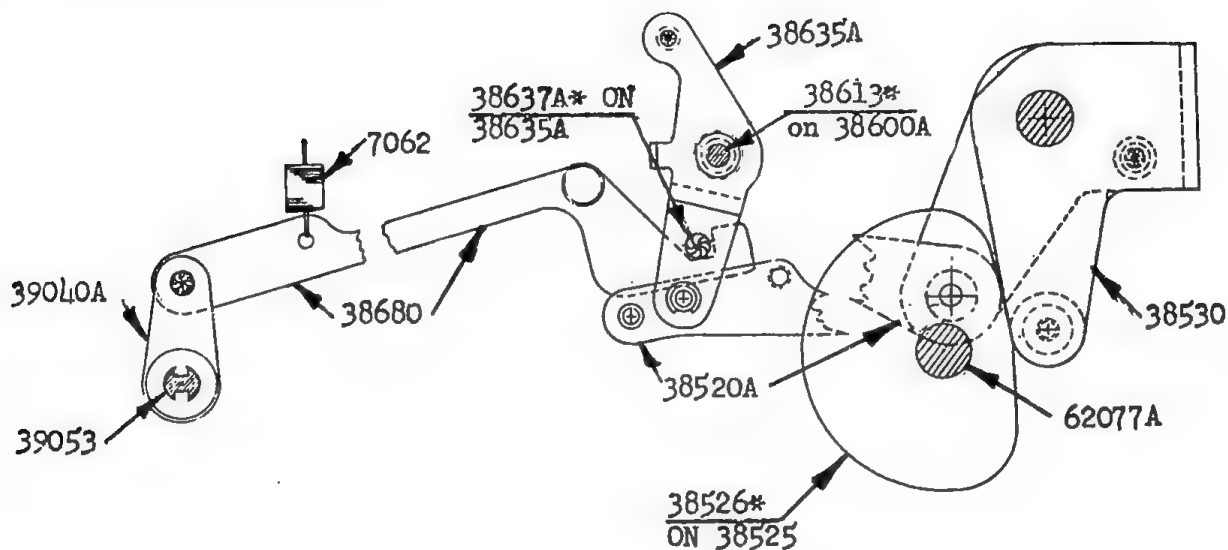
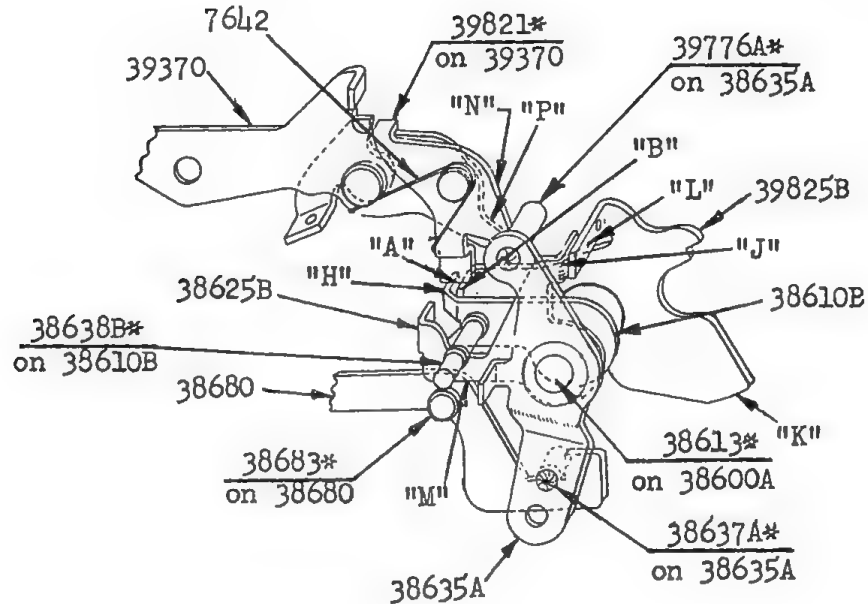

FIG. 3
FIG. 27
1. (Fig. 3 & 4). Rotation of the
Clear and Return Clutch rotates the Master Clear Cam-38526*, (Fig. 3), on 38525 counter-clockwise. This counter-clockwise movement of Cam-38526*, in turn, moves the Outer Master Power Bail-38530 counter-clockwise. The Master Clutch Power Link #2 - 38520A, being attached to Bail-38530, is moved rearward and this movement rocks the Starting Lever Release Lever-38635A counter-clockwise. The Front Master Control Power Link-38680, which has its
4. (FIG. 27). Clearance of the Carriage Dials on X-Key depression is disabled by disconnecting the Front Master Power Link-38680 from the Starting Lever Release Lever-38635A which rocks counter-clockwise on Master Clutch Cycle. (See Section I-Para. C-1 on Pages 1209 and 1210). When 38610B is rocked counter-clockwise its surface "M" moves Stud 38683* on 38680 down and thus rocks the hook on 38680 out of engagement with Stud-38637A* on 38635A, breaking the connection to Clear Shaft-39053. (Fig. 3 on Page 1210)